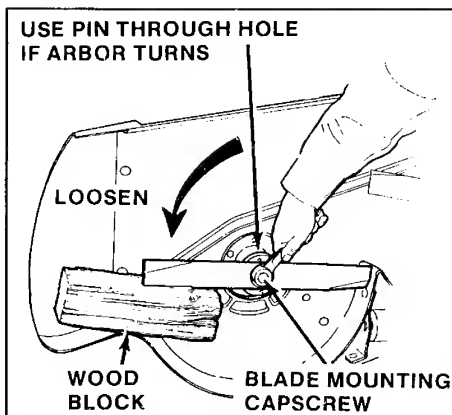

Figure 17. Removing Blade
1. Remove mower from tractor and position as in figure 17. Secure the mower so it will not fall.
3. Use wooden block to hold blade while removing capscrew (figure 17).